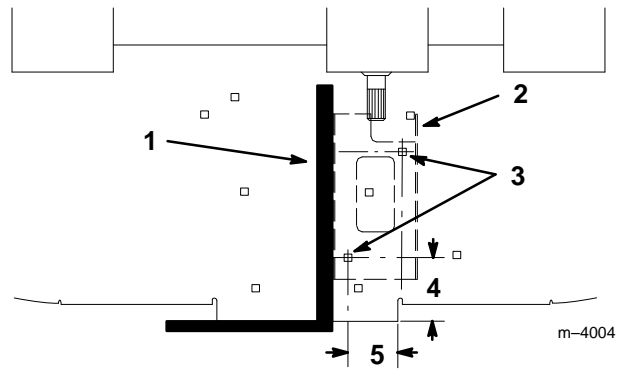

Figure 5
2. Place a square along the discharge edge and align a new drive shaft cover support using the existing front hole, if present, or align as shown in Figure 5.
3. Using support as a guide, mark, center punch and drill (1 or 2), 11/32" (9 mm) hole(s) in the mower (Fig. 5).